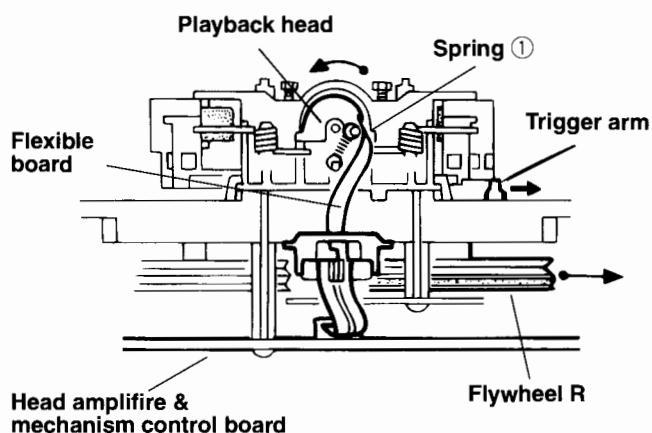
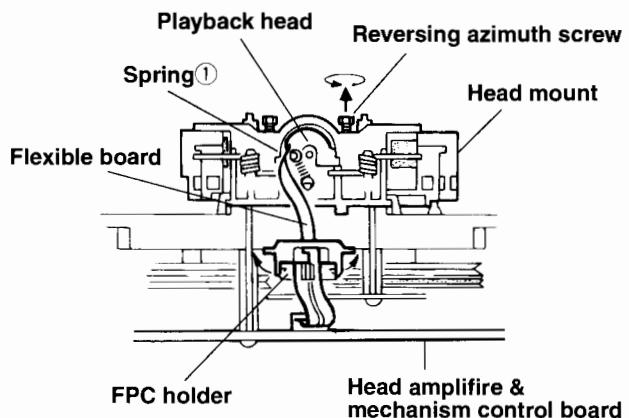
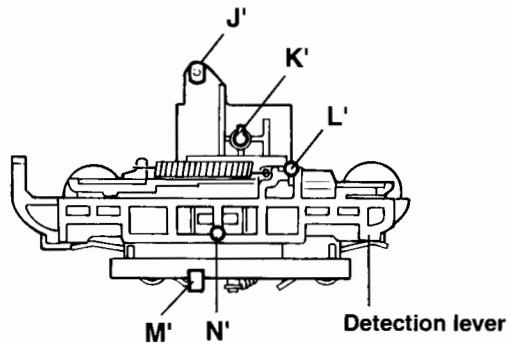
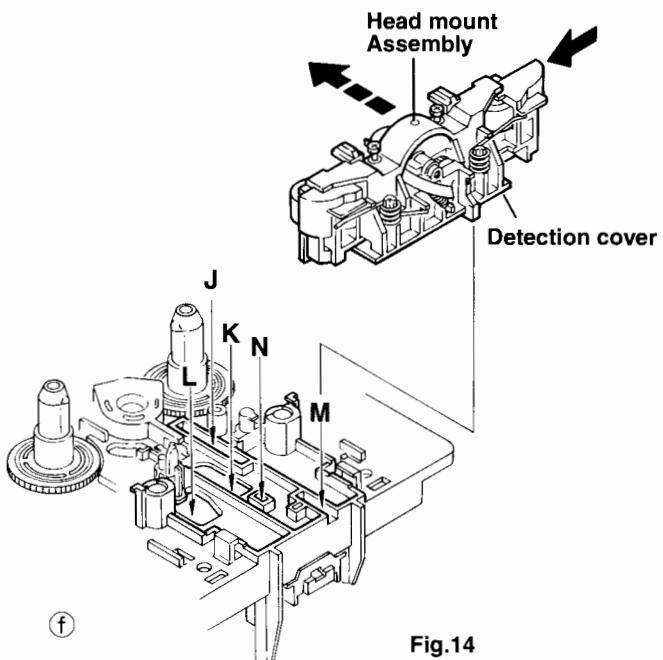

Fig.12
Fig.15
Fig.13 Head mount Assembly
Fig.14
2. When the flywheel R is rotated in counterclockwise direction from the position in Fig.12 to that in Fig.13.
6. Remove the spring ① from behind the playback head.
■ Reassembling the Playback, Recording and Eraser Heads(See Fig.13,Fig14)
- 2)Reassemble the playback head from the front of the head mount to the position as shown Fig.13, Fig14, and Fig.15.(J', K', L' and M', N' are set to the hole of K and L and ditches of J, M and N and thru sting out the head mount assembly is built in.
- 4.Attach the flexible P.C. board to the chassis base, and fix it with the FPC holder as shown in Fig.15.